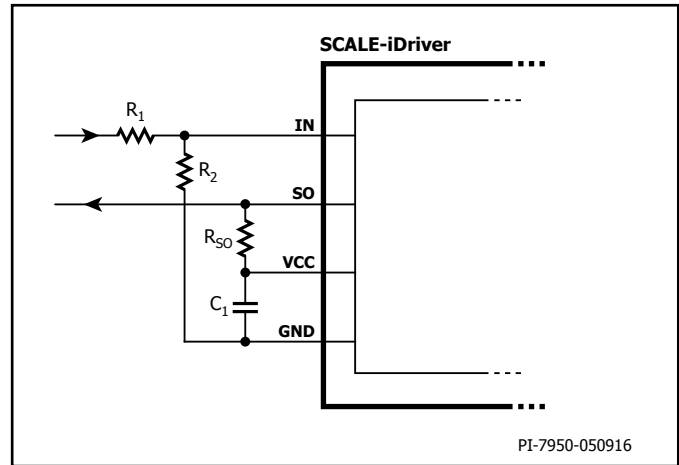
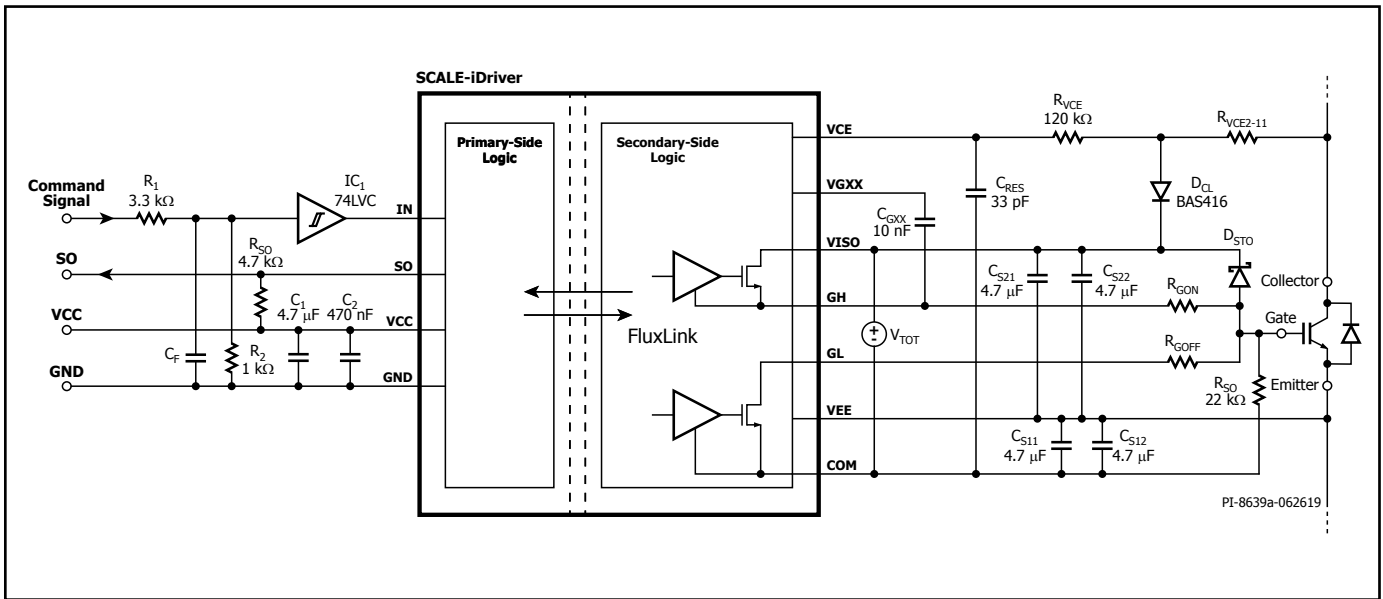

Figure 5. Increased Threshold Voltages  $V_{IN+LT}$  and  $V_{IN+HT}$  For  $R_1 = 3.3 \text{ k}\Omega$  and  $R_2 = 1 \text{ k}\Omega$  the IN Logic Level is 15 V.
Figure 13. SCALE-iDriver Application Example using a Resistor Network for Desaturation Detection.
The input (IN) and output (SO) logic is designed to work directly with micro-controllers using 5 V CMOS logic. If the physical distance between the controller and the SCALE-iDriver is large or if a different logic level is required the resistive divider in Figure 5, or Schmitt-trigger ICs (Figures 13 and 14) can be used. Both solutions adjust the logic level as necessary and will also improve the driver's noise immunity.
and power-down. Any supply voltage related to VCC, VISO, VEE and VGXX pins should be stabilized using ceramic capacitors  $C_1$ ,  $C_{S1X}$ ,  $C_{S2X}$ ,  $C_{GXX}$  respectively as shown in Figures 13 and 14. After supply voltages reach their nominal values, the driver will begin to function after a time delay  $t_{START}$ .
Figure 13 shows how switch desaturation can be measured using resistors  $R_{VCE2} - R_{VCE1}$ . In this example all the resistors have a value of 100 kΩ using 1206 package. The total resistance is 1 MΩ. The resistors should be chosen to limit current to between 0.6 mA to 0.8 mA at maximum DC-link voltage. The sum of  $R_{VCE2} - R_{VCE1}$  should be approximately 500 kΩ for 600 V semiconductors. In each case the resistor string must provide sufficient creepage and clearance distances between collector of the semiconductor and SCALE-iDriver. The low leakage diode  $D_{CL}$  keeps the short-circuit duration constant over a wide DC-link voltage range.
Table 3. PCB Layout and Component Guidelines Referring to Figure 13.